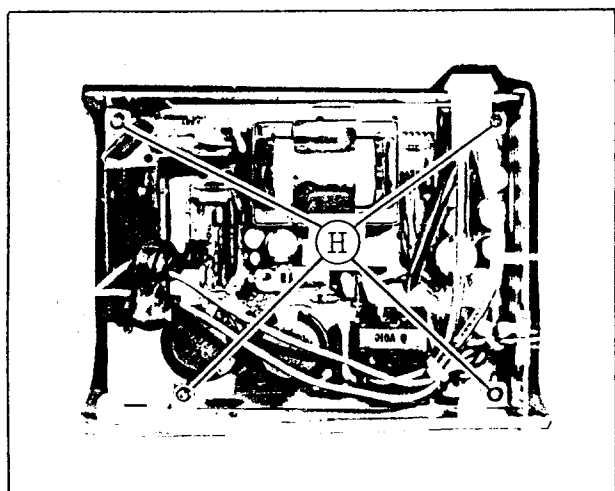

Fig. 7
- (5) Remove the four screws marked (H) shown in Fig. 7.
- (6) Take-off the Power P.C. Board from the chassis and then check the Power P.C. Board.